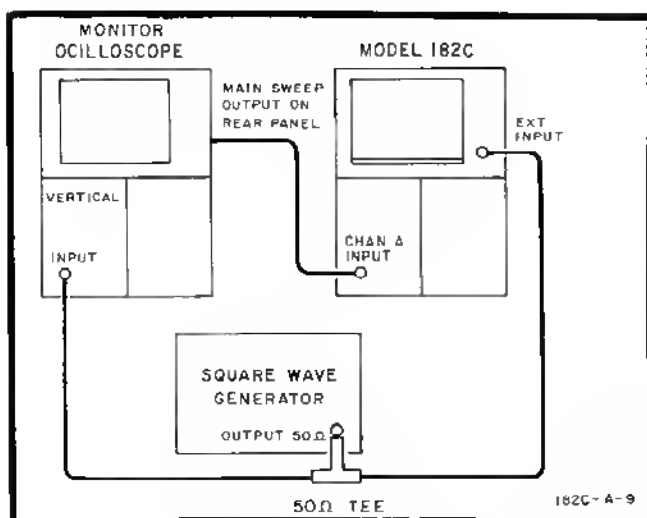

Figure 5-5. Transient Response Adjustment Test Setup
- d. Connect 1  $\mu\text{sec}/\text{div}$  sweep signal from Monitor Oscilloscope rear-panel Main Sweep Output to Channel A Input of Model 182C. See Figure 5-5.